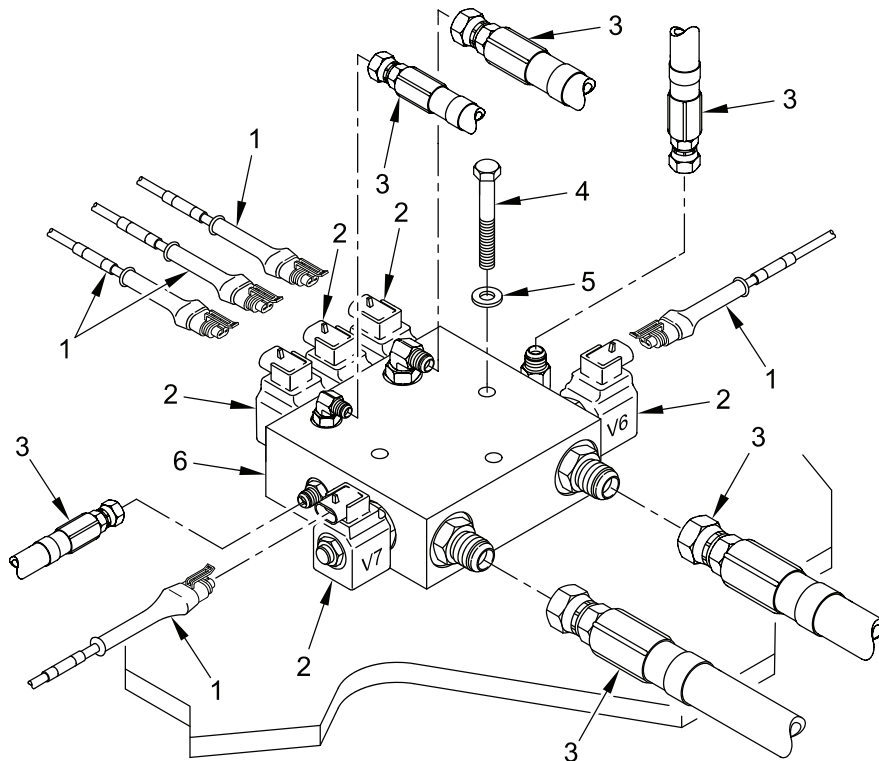

Figure 4. Installing HDC Aft Manifold Assembly
1. Install aft manifold (Figure 4, item 6) in vehicle with three new self-locking screws (Figure 4, item 4) and three flat washers (Figure 4, item 5).
2. Remove caps from adapters and plugs from hydraulic hose connector ends and connect six hydraulic hoses (Figure 4, item 3) to aft manifold (Figure 4, item 6).
3. Connect wiring harness W3 connectors P4, P6, P7, P8, and P18 (Figure 4, item 1) to five two-way valves V4, V6, V7, V8 and V18 (Figure 4, item 2) on aft manifold (Figure 4, item 6).